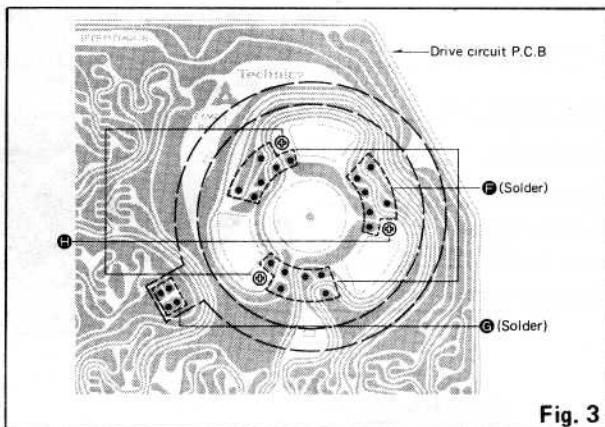

Fig. 3
6. Disconnect 18 soldered parts **F** of the stator coil and 4 soldered parts **G** of the F.G detector coil as shown in Fig. 3.
7. Remove 3 screws **H** of the stator frame ass'y as shown in Fig. 3.